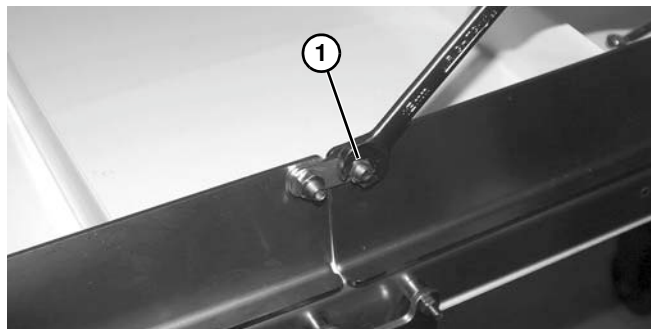

Figure 43
6. Install and tighten nut (**Figure 43, item 1**) on stud to secure.